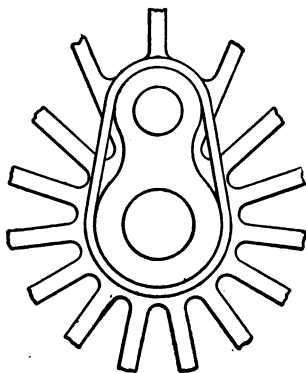

FIG. 82.—BANDED
A. There are several ways of strengthening such broken parts. One is to shrink a band about the crank hub, which merely tends to hold the crank and center together, but is not particularly effective in preventing a further development of the crack. This method is shown in Fig. 82.